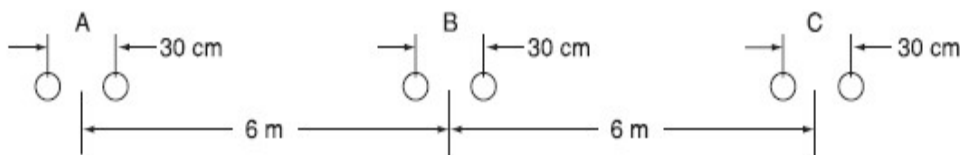

Fig. 2
3. Fig. 2 shows the conductor configuration of a completely transposed three-phase overhead transmission line with bundled phase conductors. All conductors have a radius of 0.74 cm with a 30-cm bundle spacing. (a) Determine the inductance per phase in mH/km (b) Find the inductive line reactance per phase in  $\Omega$ /km at 60 Hz.